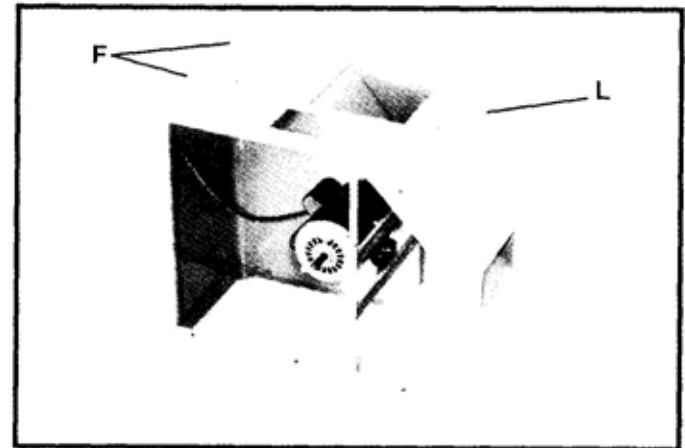

Fig. 6
3. Line up three holes (F) and (L) Fig. 6, on top of stand with three holes located at the bottom of the jointer base and fasten the jointer to the base with three $3/8 - 16 \times 2"$ long hex head screws (G) Fig. 7, six flat washers (H), three lockwashers (J), and three hex nuts (K). **CAUTION: THE JOINTER IS EXTERMEY HEAVY. WE STRONGLY SUGGEST THAT TWO OR MORE PEOPLE LIFT THE MACHINE ONTO THE STAND OR LIFT THE JOINTER MECHANICALLY. IMPORTANT:** Mounting screws for fastening the jointer to the stand through holes (F) should be started downward from the jointer base. Screw for mounting the jointer to the stand through hole (L) should be started downward from the jointer base. Screw for mounting the jointer to the stand through hole (L) should be started upward from the inside of the stand.